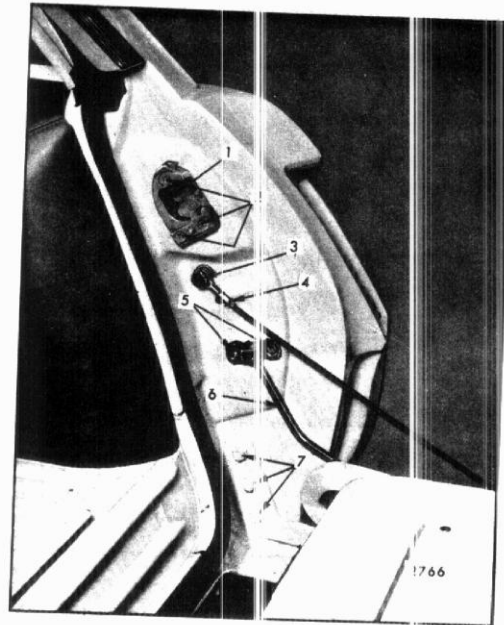

Fig. 9-59-Tail Gate Torque Rod, Hinge and Support Attachments
1. Remove tail gate window assembly. With tail gate in an approximate vertical position, remove torque rod retainer (Fig. 9-59).